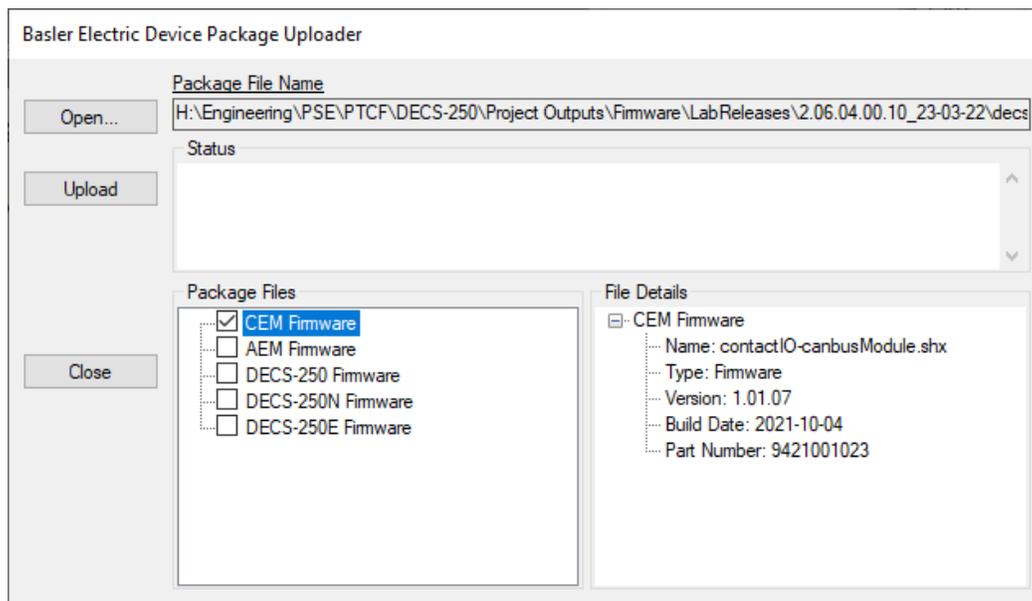

Figure 6-1. Basler Electric Device Package Uploader
8. When the Basler Electric Device Package Uploader screen (Figure 6-1) appears, click on the Open button to browse for the device package you have received from Basler Electric. The Package Files along with File Details are listed. Place a check in the boxes next to the individual files you want to upload.